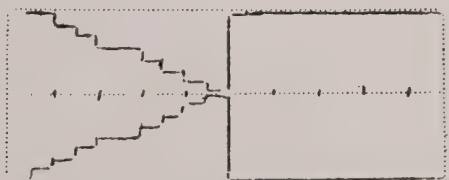

FIG. 3.1. OSCILLOSCOPE DISPLAY OF PROGRAM MODE.
8. ADJUST SCOPE STABILITY FOR STABLE DISPLAY AS SHOWN IN FIG. 3.1.